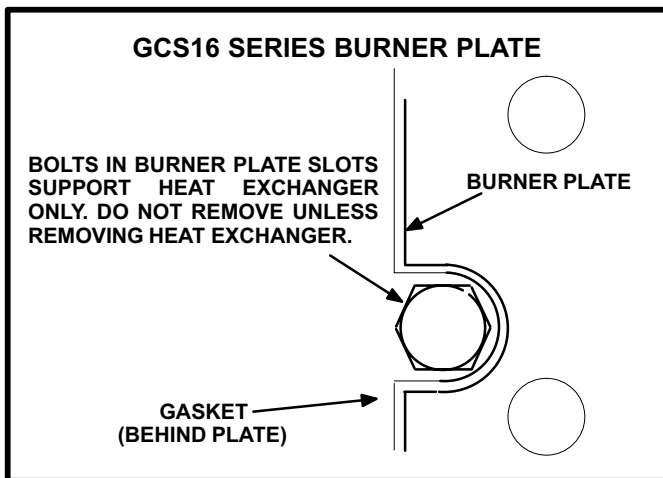

FIGURE 32
When servicing the burner, do not remove the bolts behind slots in the burner plate (see figure 32).
- 4-Remove gas valve/manifold assembly by removing bolts securing assembly to vestibule. Manifold, valve and bracket will be removed as a unit. *NOTE - See figure 32 for CAUTION concerning burner plate removal.* First detach the gas manifold bracket. Next, remove the four screws securing the gas burner manifold to the burner plate. Take care not to damage ceramic cone in combustion chamber. If cone is damaged, it must be replaced.
NOTE - See figure 32 regarding slots in burner plate.
WARNING - WHEN SERVICING THE BURNER, DO NOT REMOVE THE BOLTS IN THE BURNER PLATE SLOTS (SEE FIGURE 32). THESE BOLTS SUPPORT THE HEAT EXCHANGER CASTING. REMOVAL OF THESE BOLTS WILL ALLOW THE HEAT EXCHANGER TO DROP INSIDE THE CABINET AND COULD RESULT IN HEAT EXCHANGER DAMAGE.
- 5-Remove bolts supporting heat exchanger in burner plate (see figure 32).